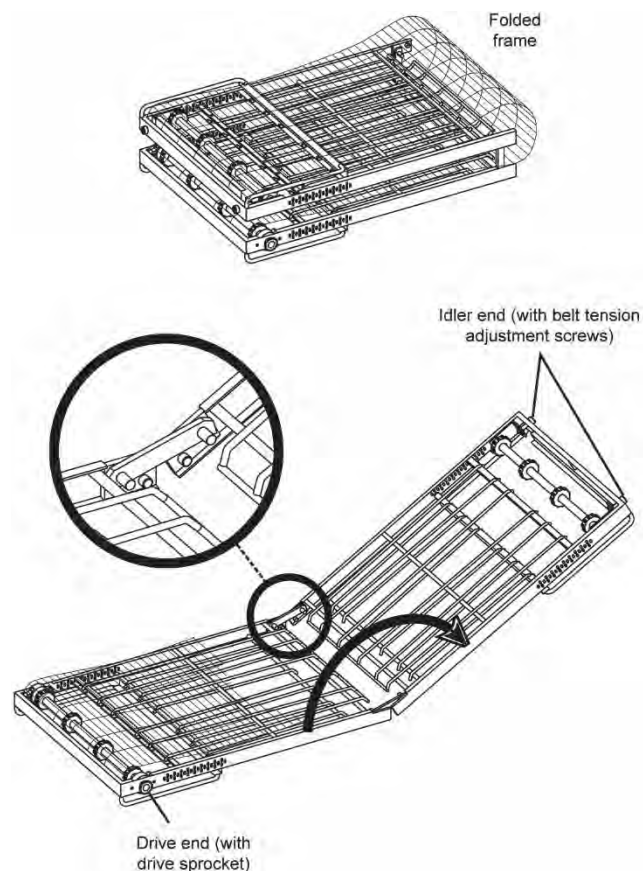

Figure 14. Conveyor Installation
1. Unfold the conveyor as shown in Figure 14. Then, begin to slide the conveyor into the end of the oven. The conveyor can only be installed from the end of the oven with the drive motor.